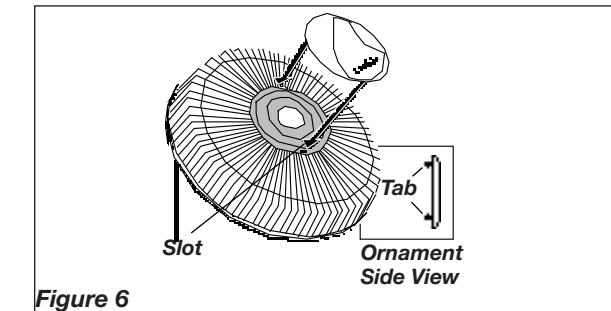

Figure 6
6. Install Ornament into Metal Front Grill. Insert **Tabs** into rectangular **Slots**. Snap into place. (Figure 6)